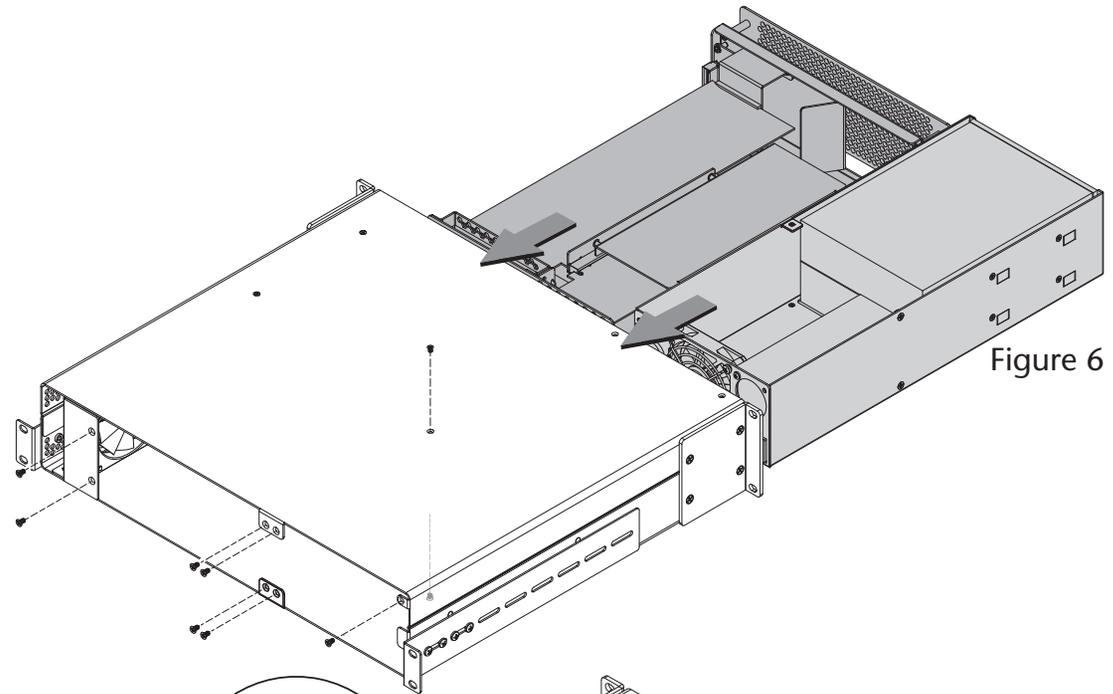

Figure 6
6. Insert the kit into the Echo Express III-R rackmount enclosure, followed by the inner assembly (Figure 6). Secure the inner assembly to the enclosure using the four screws you removed previously. Secure the kit to the enclosure using five of the six screws you removed previously, as shown.